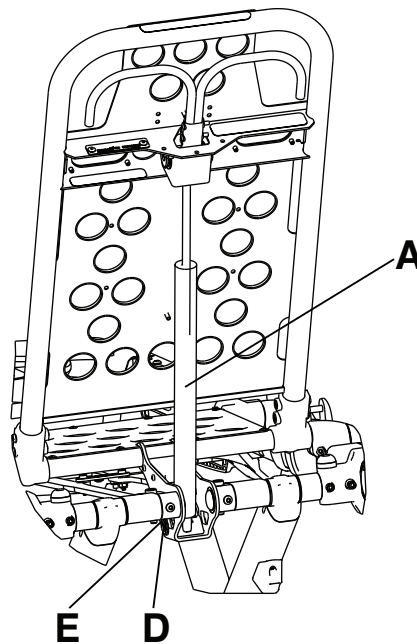
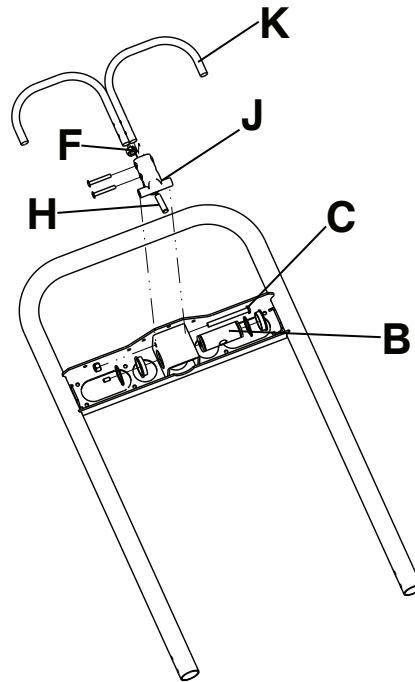

Figure 2 – Backrest adjustment
Figure 3 – Remove the backrest components
- Before you continue with the backrest adjustment procedure, make sure that the cylinder (A) is threaded into the yoke (B) so no threads are showing on the shaft of the cylinder (Figure 2 and Figure 3).
- a. Using a 3/32" hex wrench, remove the set screw (C) from the center of the yoke. Save the screw.
- b. Using a small slotted screwdriver, remove the E-clip (D) and pin (E) that secures the bottom of the pneumatic cylinder.
- c. Thread the cylinder shaft (A) into the yoke (B) so no threads are showing.
- d. Using a small slotted screwdriver, replace the E-clip (D), pin (E), and set screw (C) using Loctite® (Figure 2 and Figure 3).
2. Using a 1/2" combination wrench, loosen the hex nut (F) on the backrest pivot (J) while you hold the set screw (H) fixed in the pivot (Figure 3).
3. Using a 5/32" hex wrench, turn the set screw (H) until there is no play between the backrest release handle (K) and the pneumatic cylinder release button (Figure 3).
6. Using a 1/2" combination wrench, tighten the hex nut (F) while you hold the set screw fixed in the pivot (Figure 3).